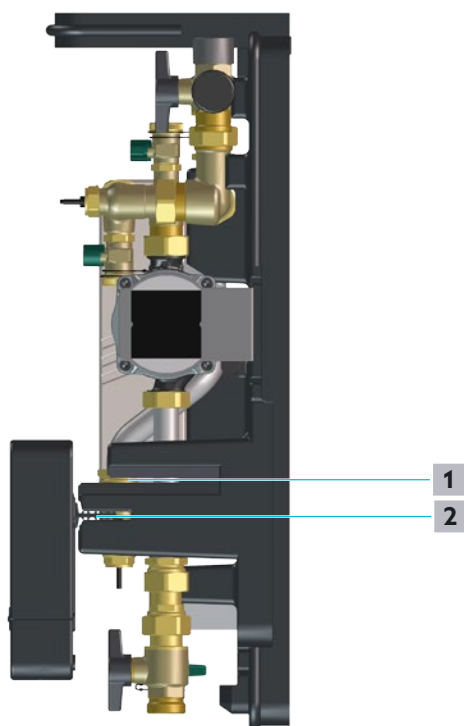

Fig. 21: Mounting position
- 2 Turn the controller and fix it in the mounting position as shown in Fig. 21 on page 28.